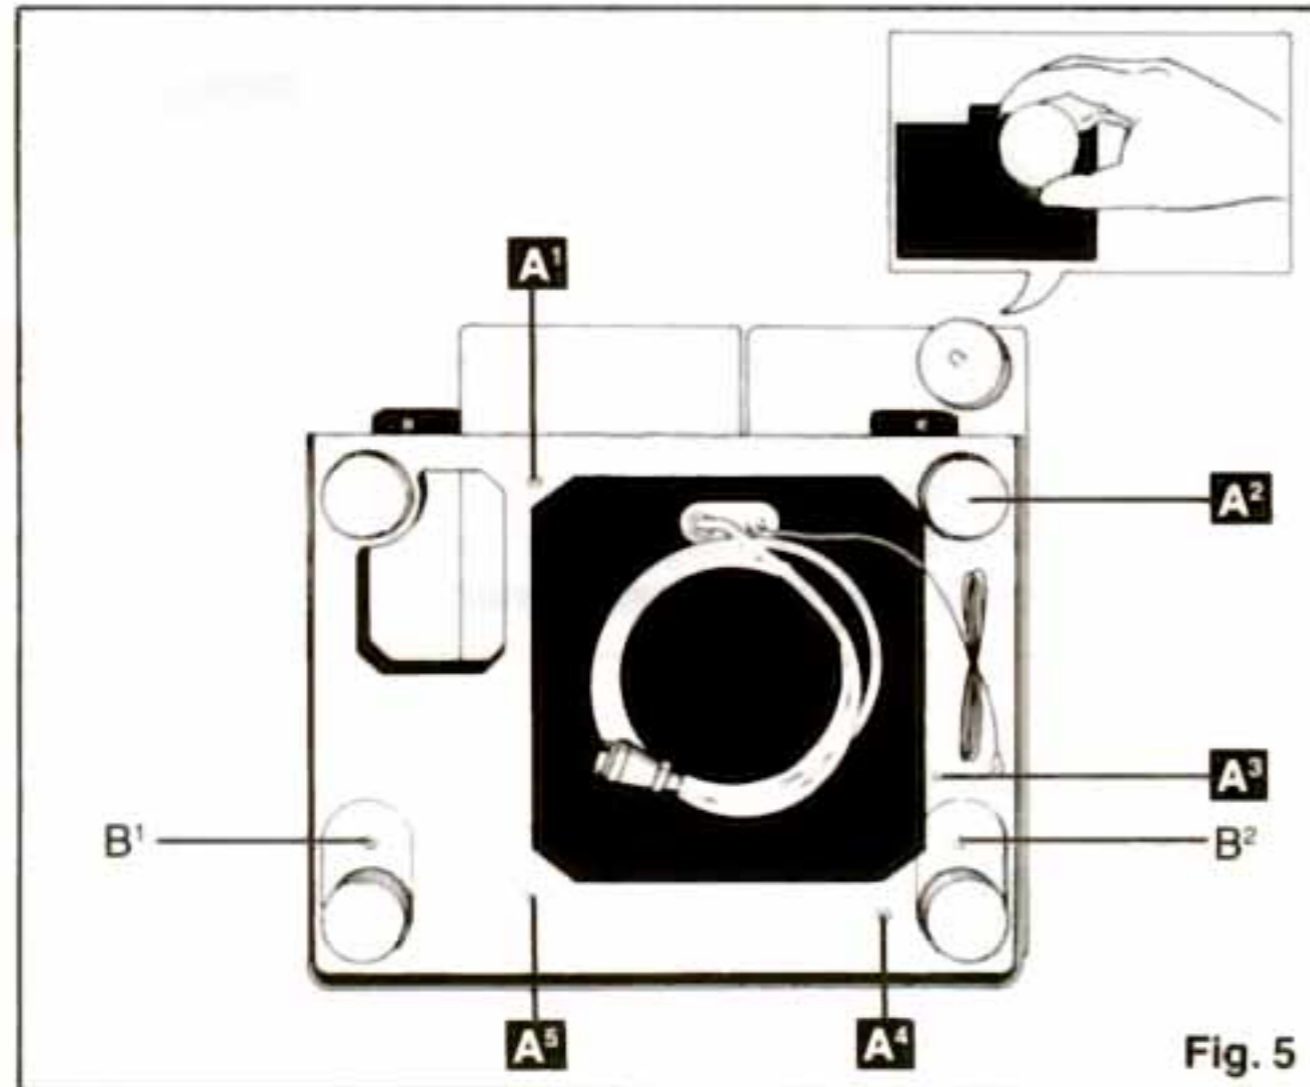

Fig. 5
④ Remove the upper right insulator/leg (Fig. 5).
⑤ Fit washers onto this unit's installation screws (M5×35) and screw in securely at the five points A'~A⁵. (Refer to Fig. 5.)
Two of the insulator/legs can be attached at the points B' and B² if necessary to match the size (front to rear) of the installation location. (Refer to Fig. 5.)